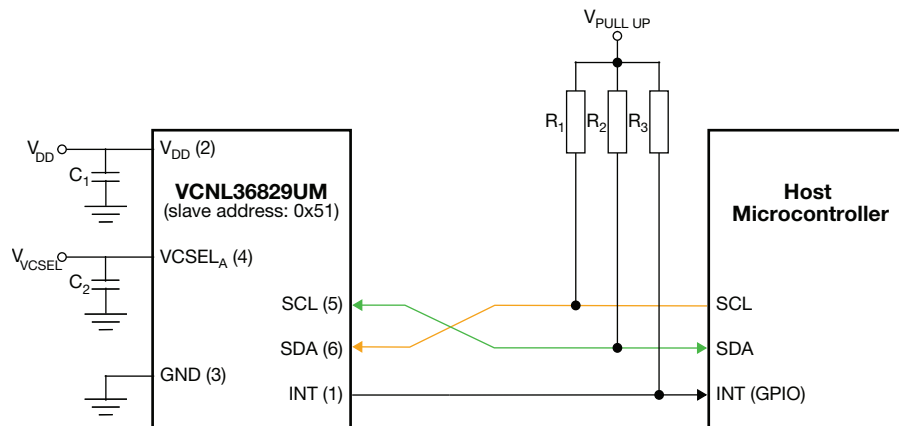

Fig. 13 - Application Circuit Example for a Single VCNL36829UM - Slave Address 0x51
On the other hand, when pins 5 and 6 are connected to the data and clock signal from the microcontroller, as shown in Fig. 13, they will then be configured as an SDA pin and SCL pin, respectively. The 7 bit slave address option of 0x51 will be automatically selected.
- (1) The default ID depends on the connection of the SCL and SDA pins on the VCNL36829UM with the SCL and SDA pins on the host MCU. If pins 5 and 6 on the VCNL36829UM are connected to the SCL and SDA pins on the host, the default value will be 0x00. On the other hand, if pins 5 and 6 on the VCNL36829UM are connected to the SDA and SCL pins on the host, the default value will be 0x10. Please refer to Fig. 13.